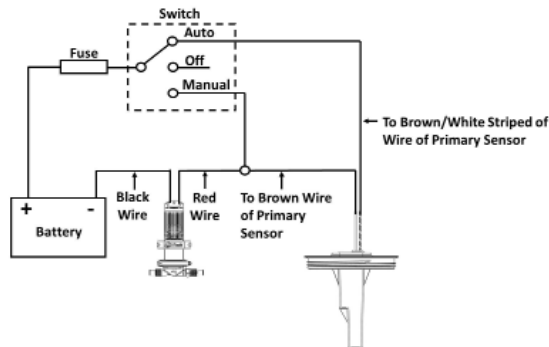

Figure 9 Wiring Diagram
- Fig. 9 Wiring Diagrams
- **WARNING:** Installation **must** be carried out by a qualified electrician. Improper wiring can cause a fire resulting in injury or death. Suggested wiring information (Figure 9) is given as a guide only, and wiring **must** comply in accordance with the applicable electrical standards. Appropriate size fuses or circuit breakers **must** be installed.
Step 6: Wiring: See Figures 9 and 10.
Incorrect wiring	Check wiring Figures 9 and 10